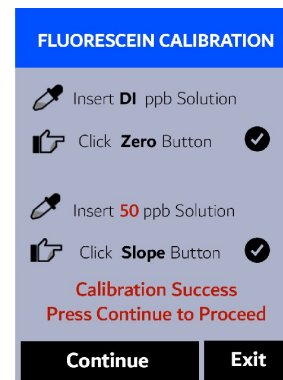

Figure 23.
9. If the calibration succeeds, a second checkmark () "**Calibration Success**" message will appear (Figure 23). Otherwise, a warning message is displayed.